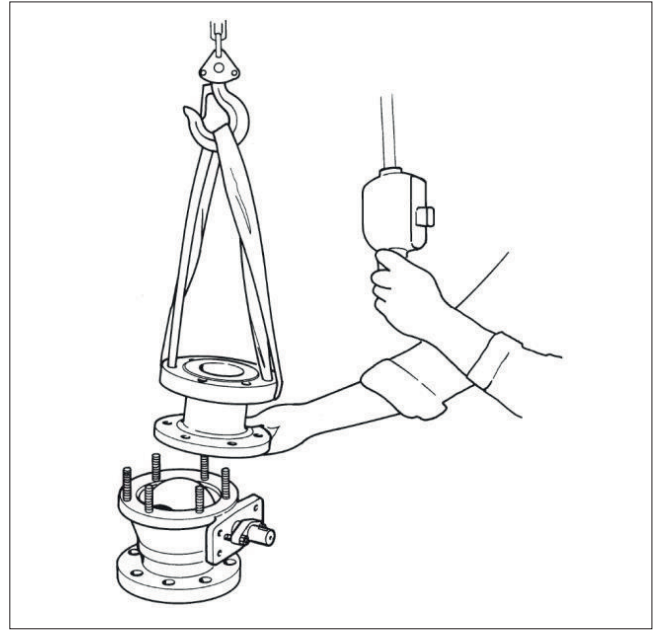

Figure 14. Lifting the Body Cap
- See that the body stud nuts (12) are facing upward.
- Remove the key (30).
- Remove the bottom plug (24) by removing the screws (23).
- Remove the nuts (12) that fasten the body cap (2) to the body (1).
- Remove the body cap (2). If the seat, disc spring, seals, and spring pins are not lying on the body (1), prevent them from falling from the body cap and detach them later. Don't leave your fingers between the body cap and the surface! Stand the removed body cap on its pipe flange. (Disc springs and seals not required for all seat constructions). See Fig. 14.